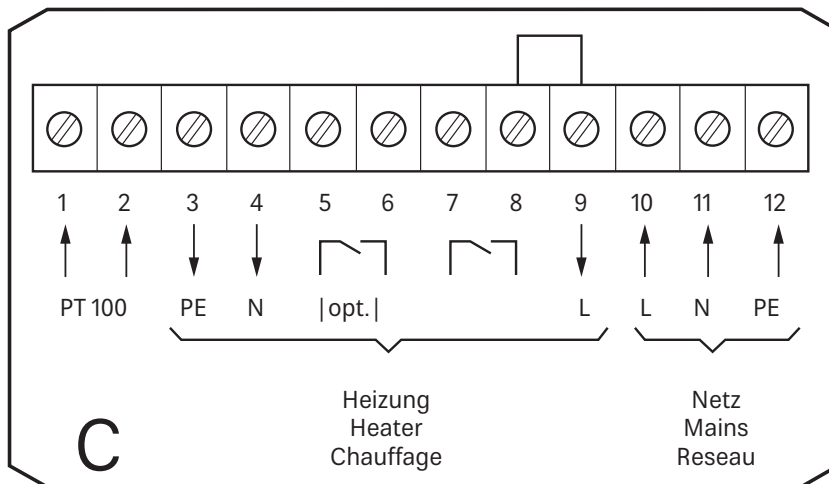
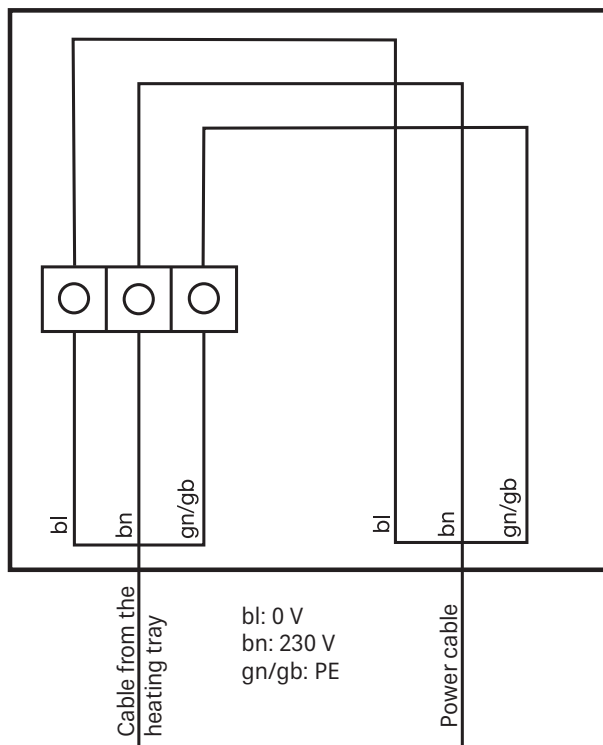

Fig. 1: ESO 005 temperature control terminal assignment
Fig. 2: Terminal assignment when using the heating without the ESO 005
5. If you use the ESO 005 temperature control, connect the cables as shown in Fig. 1, if you use the heating without the ESO 005, connect the cables as shown in Fig. 2.